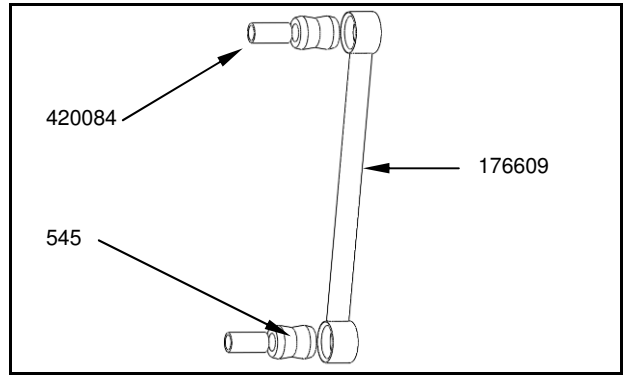

Figure 10
- 2)  Apply silicone lubricant and press sleeves 420084 from kit 860684 into the installed bushings. See Figure 10.